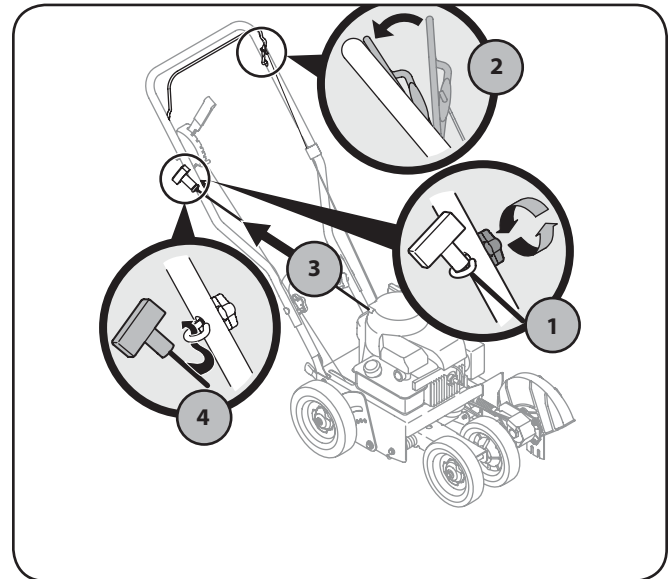

Figure 3-2
1. Locate the rope guide found on the right side of the upper handle. Loosen, but do NOT remove, the wing knob which secures the rope guide to the upper handle. See Fig. 3-2.
NOTE: The starter rope will not pull out of the engine unless the blade control (refer to Fig. 3-2) is depressed against the upper handle.